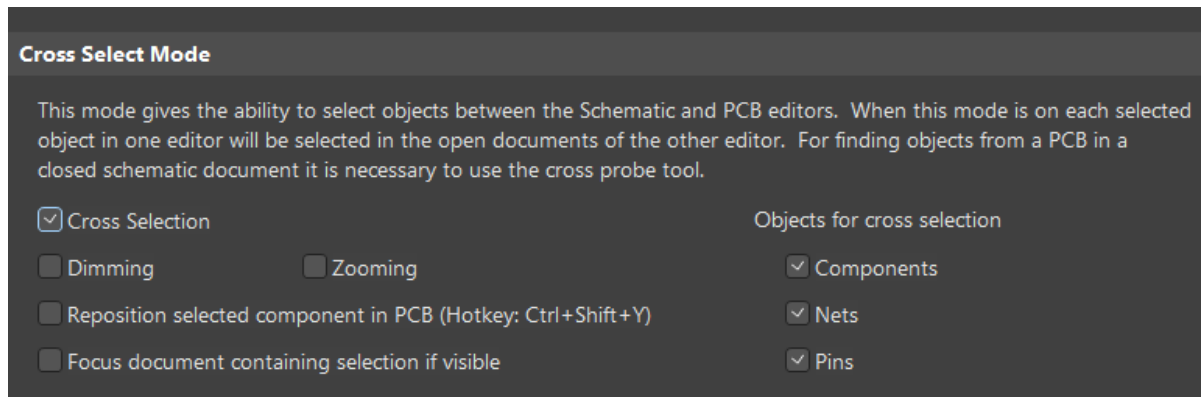

Figure 12. Cross Select option
38. From the *System* branch, on the *Navigation* page, verify that the **Cross Selection** checkbox is enabled under *Cross Select Mode*, Figure 12. Click **OK** to exit the *Preferences*.